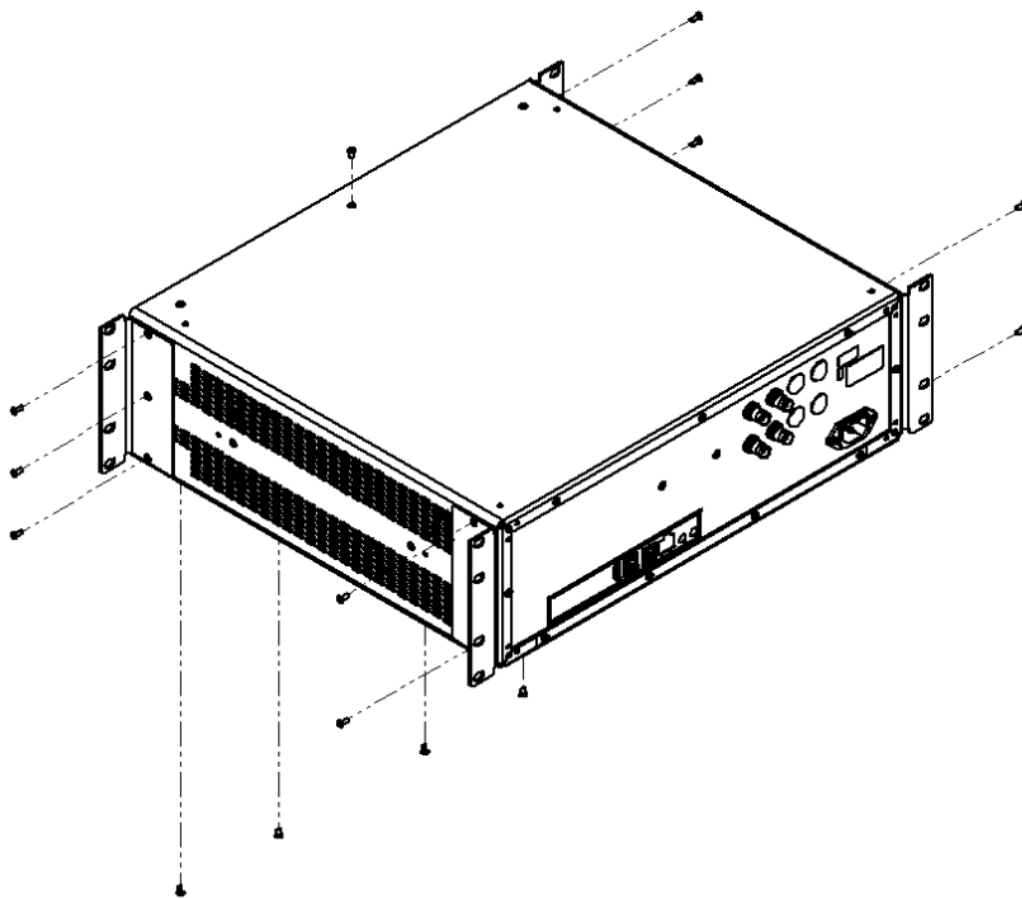

Figure B-2. Attaching Rack Mount Brackets to the Instrument
4. Install the rack mount brackets onto the instrument sides using the screws supplied with the brackets (see Figure B-2). The figure shows the bracket positioning for both front and rear facing rack mount installation.